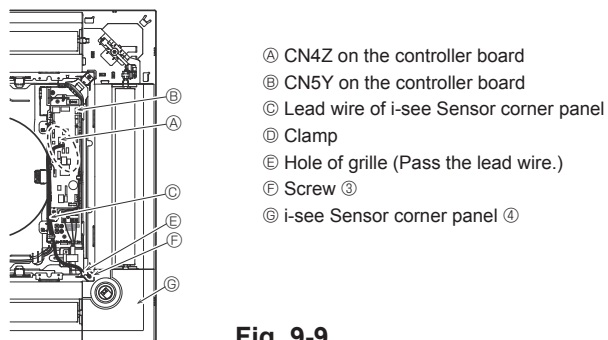

Fig. 9-9
9.4.5. Installation of i-see Sensor corner panel (Fig. 9-9)
- Route the lead wire connector (white, 4 poles and white, 5 poles) of the i-see Sensor corner panel ④ from the side of the electrical box on the main unit and connect to the connector CN4Z and CN5Y on the controller board.